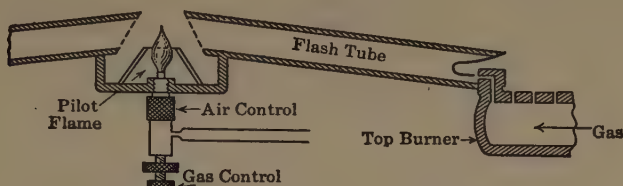

FIG. 107. — Automatic gas lighter.
**The automatic pilot.** The new-type gas ranges have many different devices for lighting the burners automatically when the gas is turned on. Most of these are different ways of using a *flash tube*. One type of flash tube works as follows (see Fig. 107). When the gas has been turned on and reaches the burner, an opening to the flash tube lets some